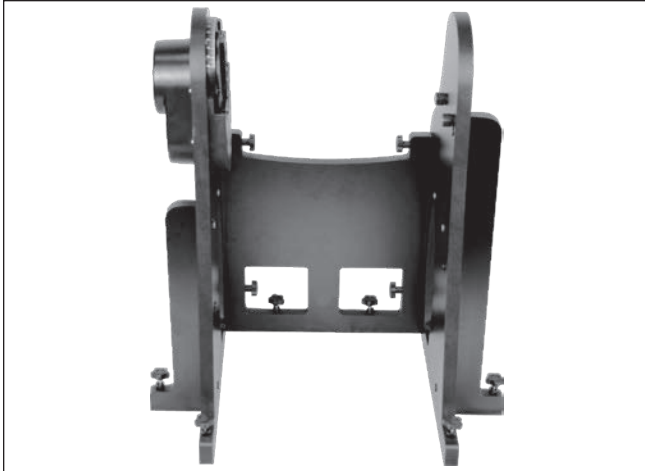

Figure 10. The completed side panel and front panel assembly
- Now attach the front brace to the two side panels with four captive connecting bolts. Use the hand knob to screw each bolt into the threaded metal receptacle recessed in the side panel. The side panels should be oriented so the side braces are facing outward. The front panel should be oriented so that the two pilot holes for the eyepiece rack face outward. Do not completely tighten the connecting bolts yet. The completed assembly should look like **Figure 10**.